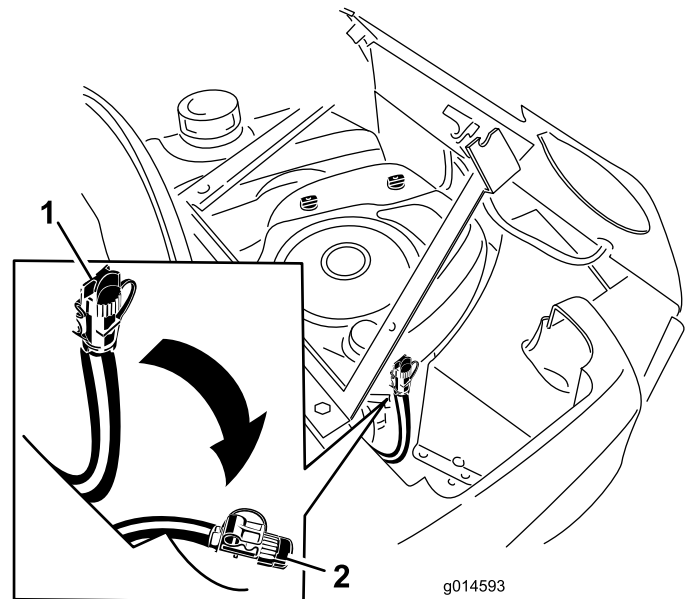

Figure 36
6. Disconnect the drain hose clip from the engine shroud and lower the hose (Figure 36).
7. Place a pan below the drain hose. Open oil drain hose cap to allow oil to drain (Figure 36).
8. When oil has drained completely, close the hose cap and connect the hose to the engine shroud (Figure 36).